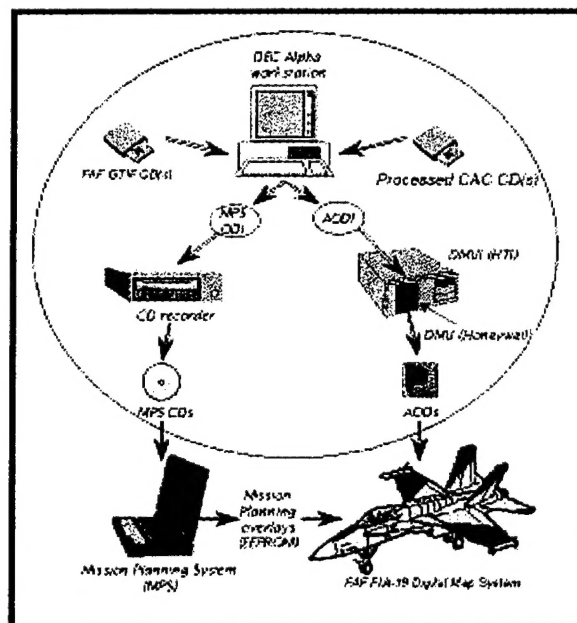
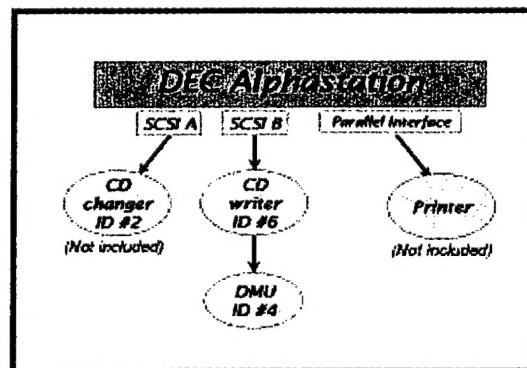

Figure 1. Overview of FAF MMC System Hardware Platform
Figure 2. FAF MMC System Hardware Connections
- Process and archive Finnish-produced geotiff Images into Compressed Aeronautical Chart (CAC) map data, compliant to the Tessellated Spheroid (TS) Projection System.
Figure 1 provides an overview of the hardware platform hosting MMC 3.4P. Figure 2 provides a diagram of hardware connections from this platform to major hardware peripherals. Note that as of Design Review (DR) Meeting #1, FAF does not own all the hardware peripherals that MMC supports. Specifically, FAF does not own a Howtek scanner or Seiko color printer, both of which are supported by MMC. In addition, FAF does not have a GPIB board, which is required for installation of the scanner. References to all other unavailable hardware (i.e., scanner, color printer, and GPIB board) are highlighted in yellow in this document. If FAF is interested in procuring this equipment, options regarding their purchase can be discussed during TRR #2.